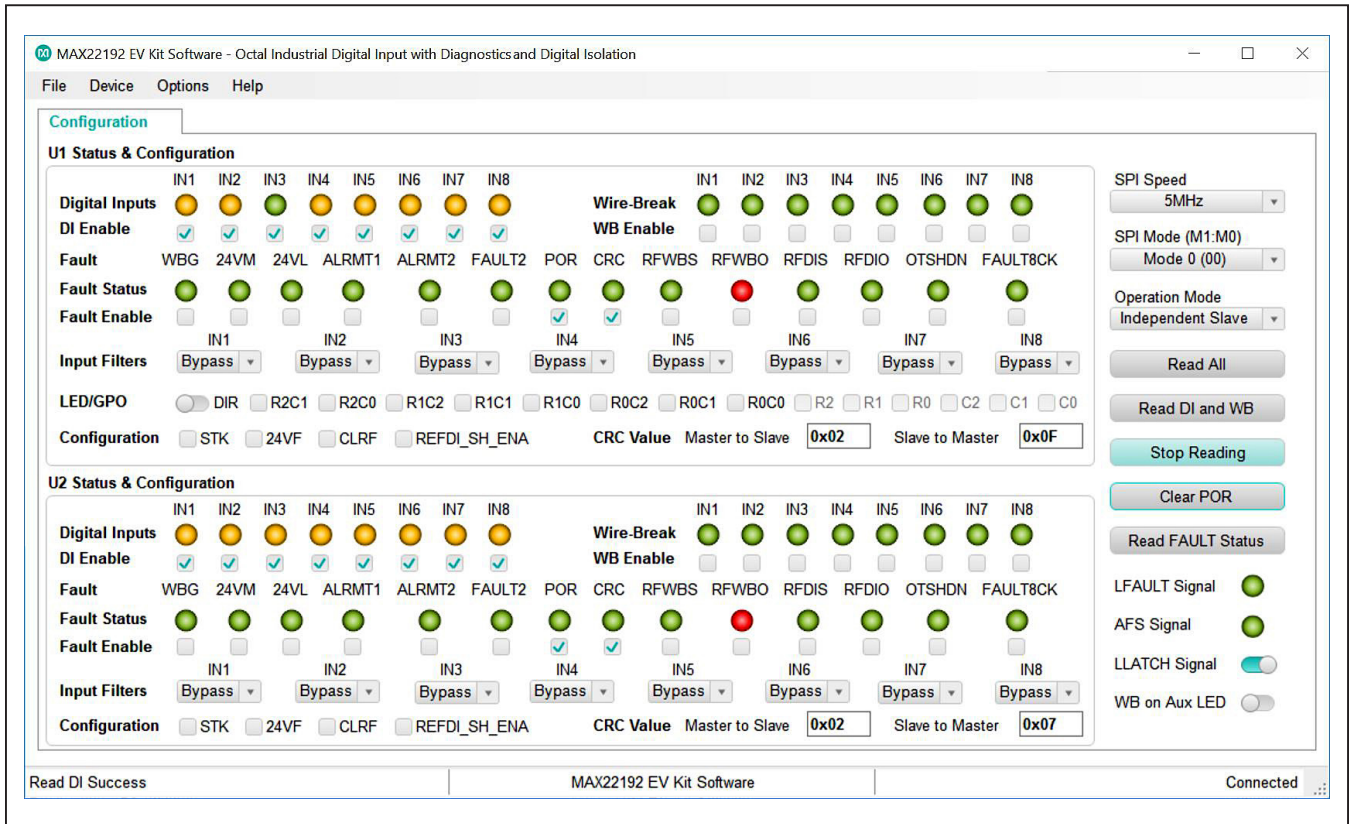

Figure 4. MAX22192 EV Kit Software—Read DI Continuously
- 15) Click **Read DI Continuously** button. The EV kit software reads the U1 and U2 DI registers continuously. Connect the 24V DC voltage to one of the input test points, for example, test point U1\_IN3. The corresponding **Digital Inputs** status light **IN3** is changed to green from yellow to indicate U1 channel IN3 is high as shown in Figure 4. On the EV kit board, the U1\_LED3 LED is also turned on.